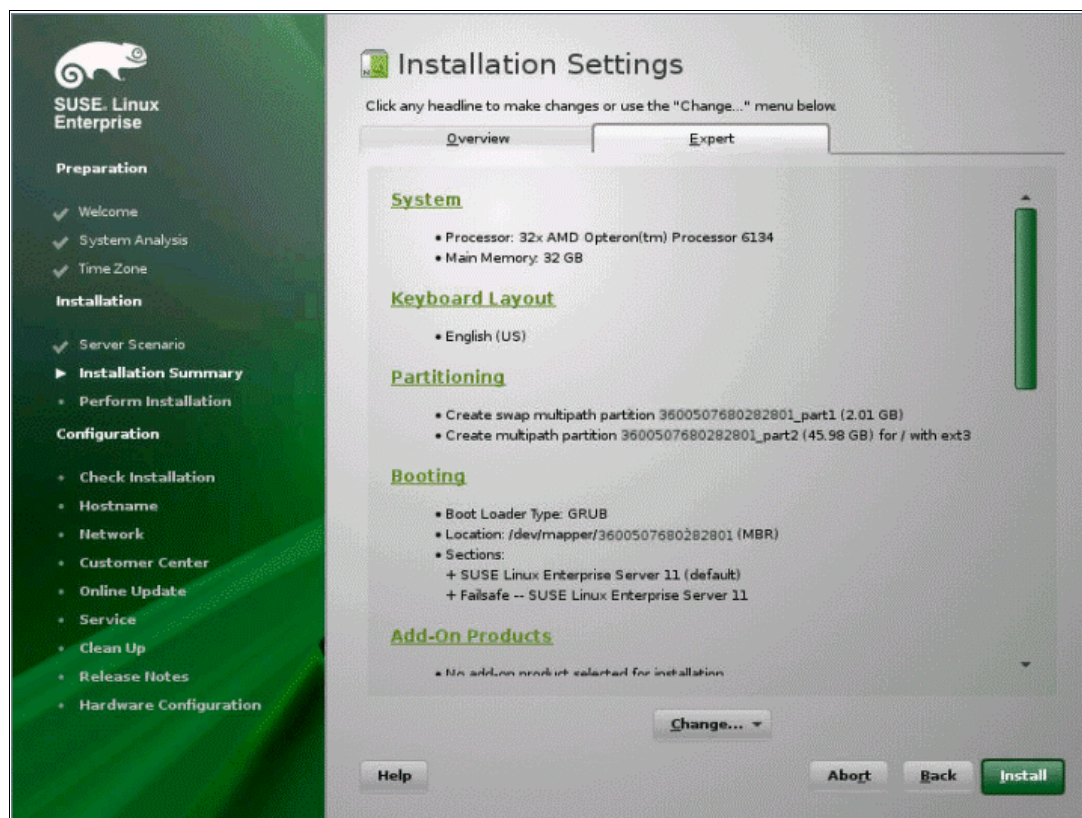

Figure 5-107 Installation Settings
16. Click **Ok**. Now the installer will show the final settings before installation, as shown in Figure 5-107.